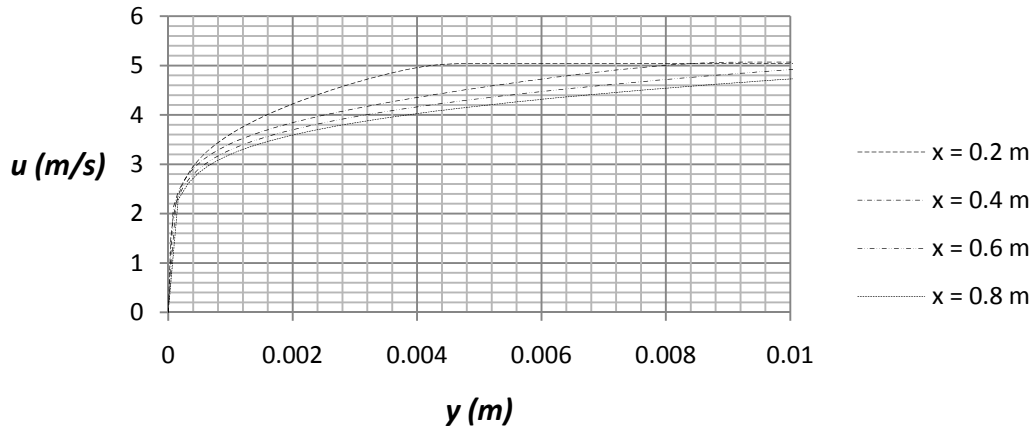

Figure 2.30a) Flow Simulation comparison between turbulent boundary layers at $Re_x = 10^6 - 4.1 \cdot 10^6$
- Place the file “xy-plot figure 2.30a)” into the **Local Disk (C:)/Program Files /SolidWorks (2)/SolidWorks Flow Simulation/lang/english/template/XY-Plots** folder to make it available in the **Template** list. Repeat step 24 and choose the sketch **x = 0.2, 0.4, 0.6, 0.8 m** and check the box for **X-Velocity**. Rename the xy-plot to **Turbulent Velocity Boundary Layer**. An Excel file will open with a graph of the streamwise velocity component versus the wall normal coordinate, see figure 2.30a). We see that the boundary layer thickness is much higher than the corresponding laminar flow case. This is related to higher Reynolds number at the same streamwise positions as in the laminar case. The higher Reynolds numbers are due to the selection of water as the fluid instead of air that has a much higher value of kinematic viscosity than water.
As an example, the turbulent boundary layer thickness from figure 2.30a) is 4.45 mm at $x = 0.2$ m which can be compared with a value of 4.44 mm from equation (4), see table 2.2.
6. Determine the displacement thickness, momentum thickness and shape factor for the turbulent boundary layers in figure 2.30a) and determine the percent differences as compared with empirical data.